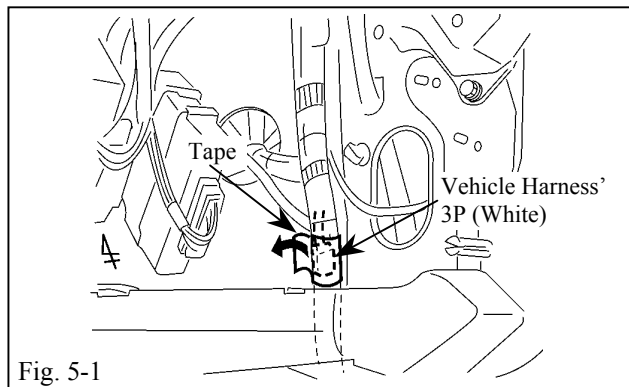

Fig. 5-1
- (a) Locate and remove the tape securing the vehicle harness' white 3P connector from the right side of the glove box area. (Fig. 5-1)